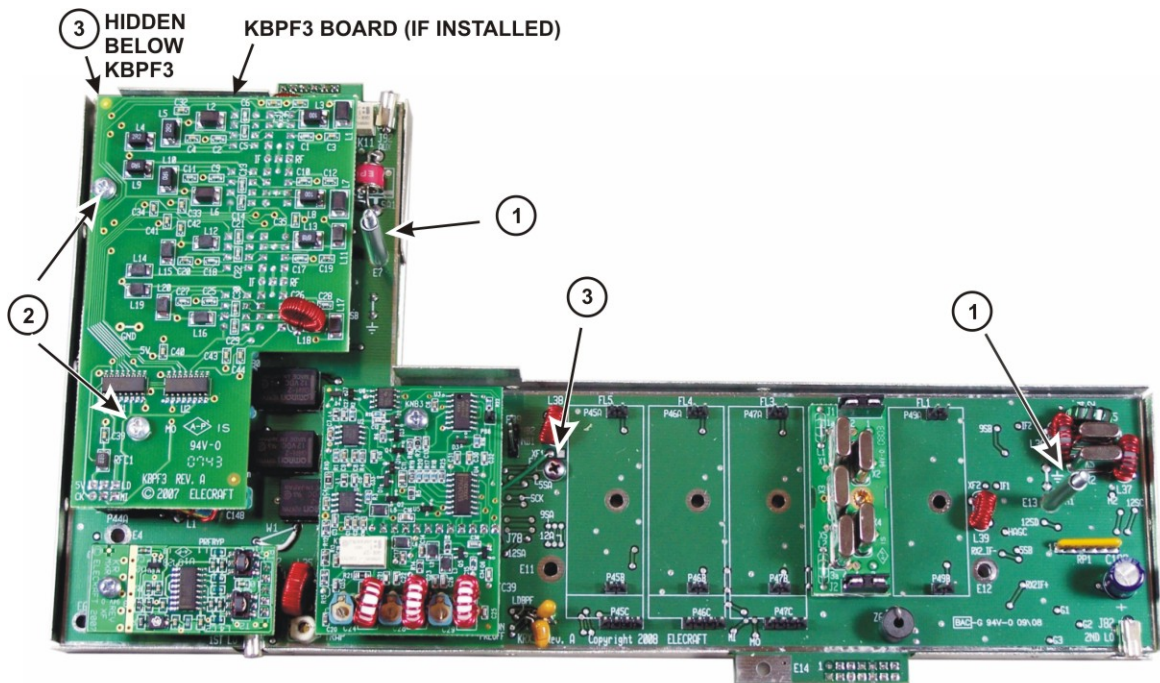

Figure 3. Removing the RF Board from the Enclosure.
- Remove the RF board from the lower half of the enclosure as follows (see Figure 3):
- Remove the two sleeves (1) from the long screws.
- If the KBPF3 option is installed, remove the two screws (2) and unplug it from the RF board underneath.
- Remove the two screws (3) securing the KRX3 RF board to the bottom half of the enclosure. These screws thread into bushings attached to the enclosure with screws. If a screw seems to turn without loosening, hold the corresponding screw on the bottom of the enclosure so it cannot turn.
- b) You may leave unoccupied filter positions as long as the order in a) above is followed. This is handy if you plan to add more filters later. Note that only a single filter is installed on the board shown in Figure 3, leaving space for a wider bandwidth filter to be added in FL1 position and narrower filters to be added to FL3 through FL5 later if desired. More information and examples for planning your filters is included in Appendix A of your K3 Owner's manual.
Place the KRX3 RF board in the bottom shield so that the long screws extend through holes shown in Figure 3. Press the circuit board down against the standoffs. The board may “snap” into position as the small bumps along the edges of the board slip into the holes in the sides of the shield. When properly positioned, the board will be against the standoffs in the bottom half of the enclosure. If needed, press down gently on the board near the long screws to ensure it is not caught on the threads.
Secure the KRX3 main circuit board to the short standoffs at locations ③ in Figure 3 with the 4-40 3/16" (4.8 mm) black pan head screws and #4 *split* lock washers you removed earlier. Do not use inside tooth lock washers.
If you removed the KBPF3 board, replace it. Be sure the three connectors are aligned so all the pins engage. The connectors are visible from the sides. Secure the board at locations (2) in Figure 3. Use the 4-40, 1/4" (6.4 mm) pan head screws and *split* lock washers you removed earlier. Do not use inside tooth lock washers.
Replace the unthreaded sleeves over each of the long screws so they rest against the top of the circuit board (locations (1) in Figure 3), then place the top shield over the assembly and adjust its position so the edge of the top fits inside the bottom and rests against the KRX3 main board on all sides. The long screws will pass through holes in the top cover. Secure the top with the knurled nuts finger-tightened only enough to hold the cover in place so it isn't loose. Lock washers are not used under the knurled nuts.